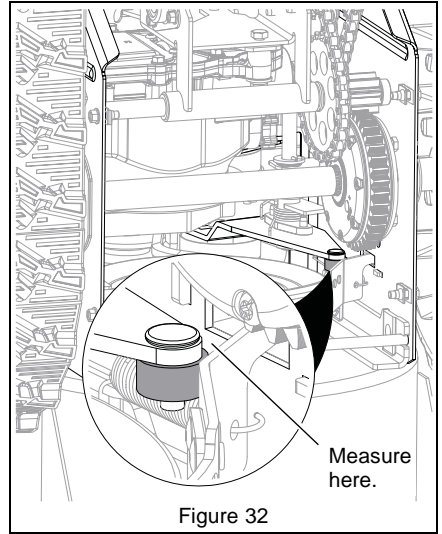

Figure 32
2. Engage attachment clutch and check the clearance between the frame and plastic roller on the lower end of the attachment idler arm. Roller should be 12.7 mm – 22.2 mm (1/2" – 7/8") from the frame. See Figure 32.